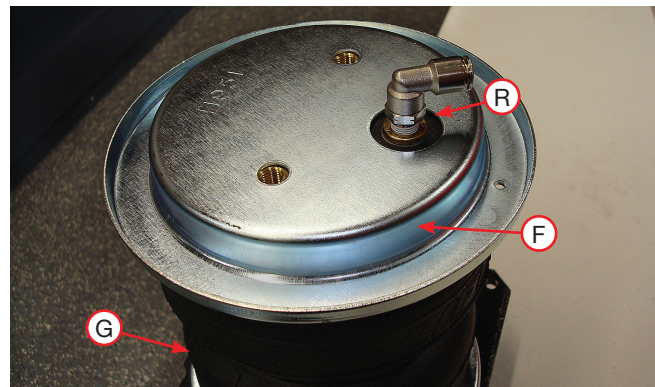

Fig. 8
1. Set a roll plate (F) on top of the air spring (G). The radiused, or rounded, edge of the roll plate should be toward the air spring so that it is seated inside the roll plate (Fig. 8). Install the 90-degree swivel fitting (R) into the port on top of the air spring finger-tight plus 1 1/2 turns.